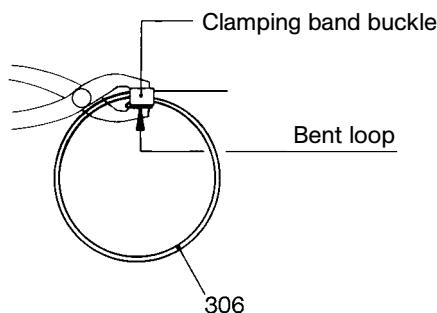

Figure 7: Press clamping band loop against clamping band buckle.
- Mount cover sleeve (308) with screw driver, lift top with screw driver, run spray pipe of the oil can under the sleeve and fill the space in the joint with Allweiler Spezialgelenköl Type B or Öl ET 1510 ISO 460 of Tribol Lubricants GmbH, Mönchengladbach, Germany. If used for foodstuffs, with Allweiler Spezialgelenköl Type BL or Öl 1810 / 460 of Tribol Lubricants GmbH, Mönchengladbach, Germany. Filling quantity 4 cm3.
- Check whether bent loop of the clamping band (306) rests against the clamping band buckle. If not, press against by means of commercial flat pliers (please refer to Figure 7 below).